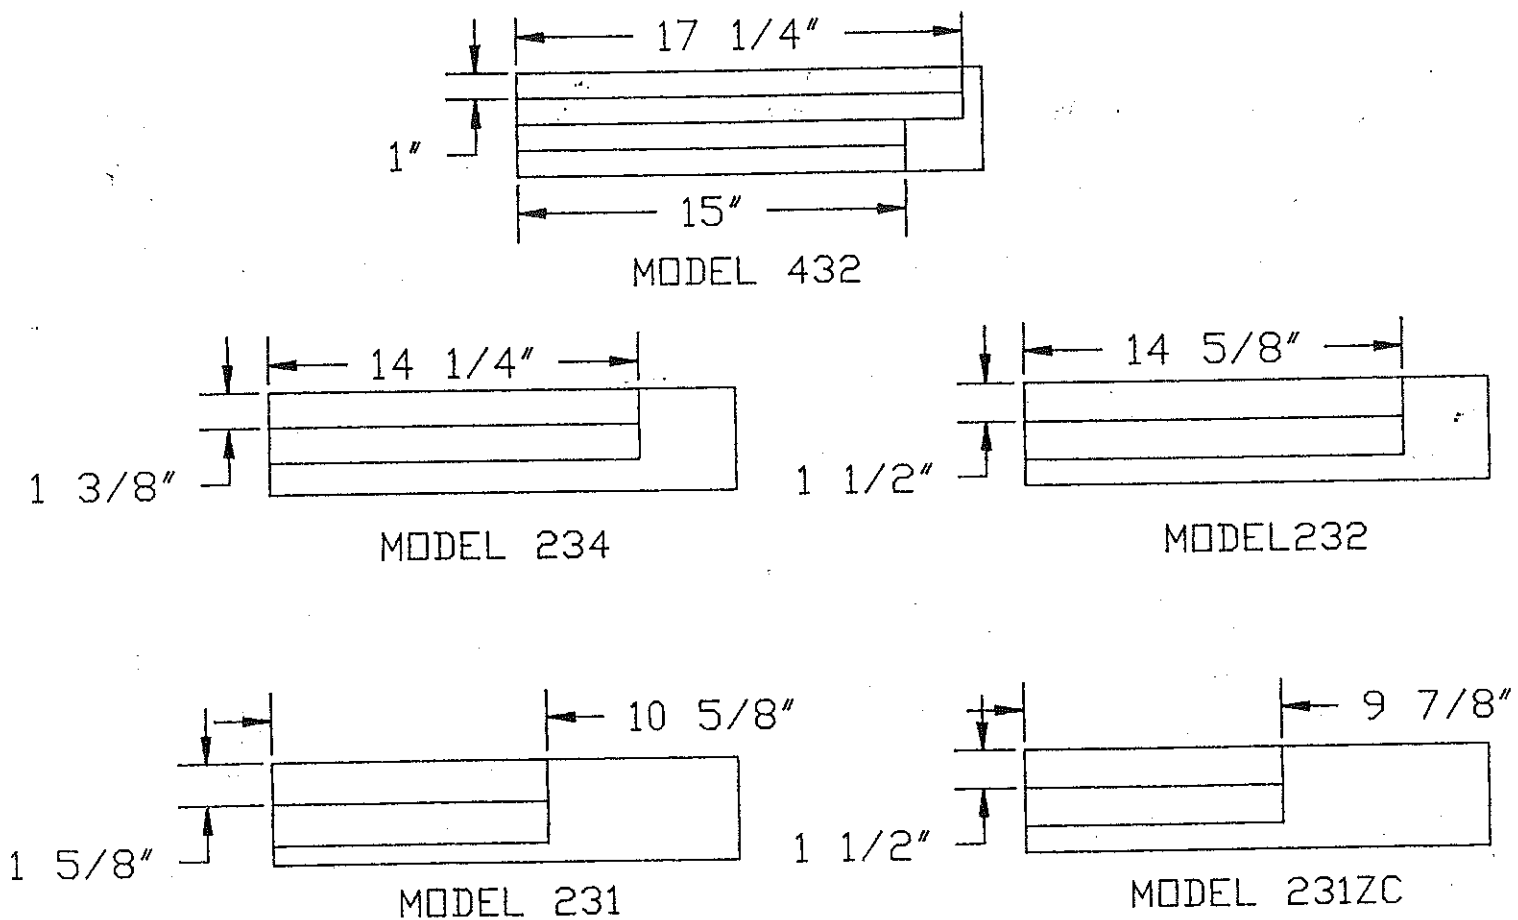

FIG. 3
C) CLOSE OFF PRIMARY AIR. / CHIMNEY DAMPER See Figure 3.